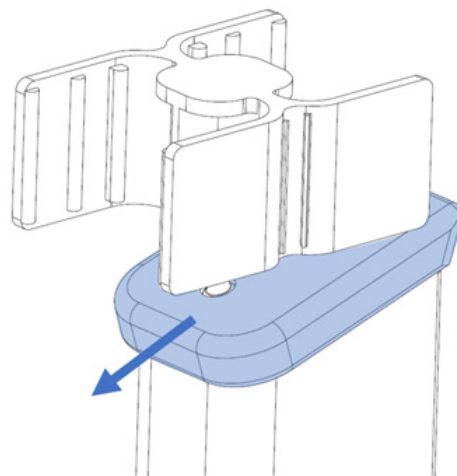

Figure 63 Direction to release the floor plate’ clip.
4. With the tool/punch inserted, pull the magazine’s floor plate in the direction shown in Figure 63. You should feel the side clips that secure the magazine floor plate release.